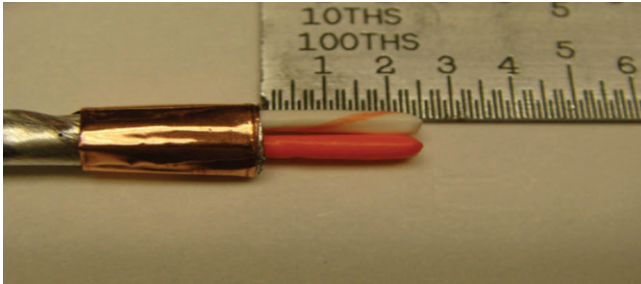

Figure 14: Removing the foil edge
- With cutters, cut the foil edge where it meets the tape. Then, tear the foil along the tape edge (Figure 14).